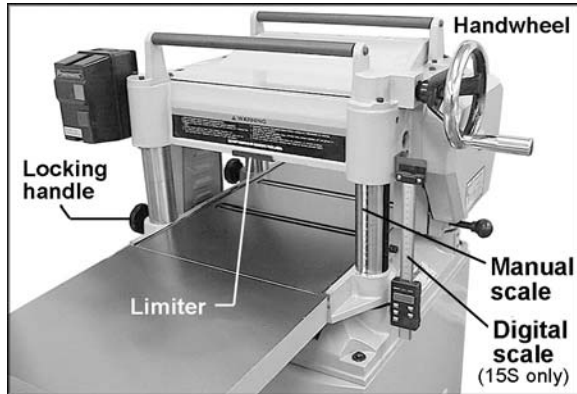
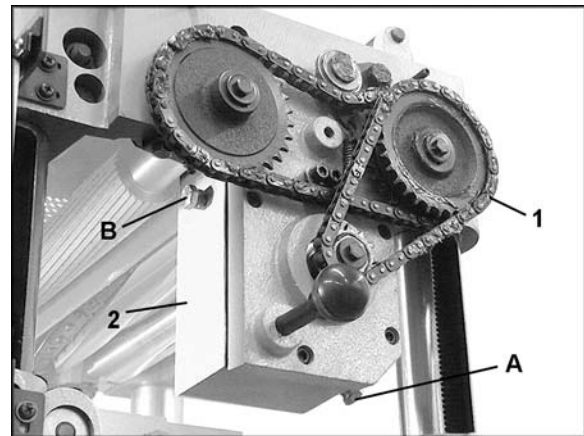

Figure 33
Figure 34
The cutting depth scale is a combination inch/metric scale (Figure 33), with a cutting range from 0 to 6" (152.4mm). A manual scale is mounted directly to the front column. The model 15S planer also features a digital scale for easier, more precise depth readings.
The distance of upward or downward movement is controlled by the handwheel (Figure 33). Before moving the table up or down, loosen the locking handles (Figure 33). After obtaining proper table position, tighten the locking handles.
Maximum depth of cut is 3/16". A limiter (Figure 33) on the front of the head casting limits the depth of cut on full width planing under 1/8".
1. Remove the drain plug (A, Figure 34) with a 14mm wrench, and remove filler cap (B, Figure 33). Drain dirty oil thoroughly.
2. Insert and tighten the drain plug (A, Figure 34).
3. Fill with clean lubricant through hole (B, Figure 34).
4. Install and tighten filler cap (B, Figure 34).